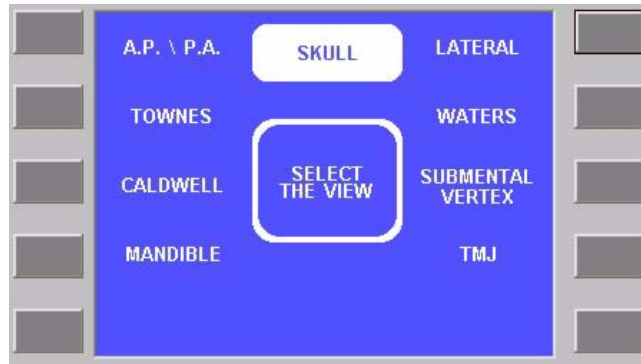

Figure 4-5. APR View Selection Screen
7. In the Service Menu, press the key next to the **APR Edit** field. The APR Edit mode screen appears (see Figure 4-5). The system accommodates up to 10 user-configurable preset region names, as shown in the sample screen below. Each region can have up to 10 selectable views, which appear upon selection of the region. Each view contains pre-programmable technique factors that are configurable according to the facility's particular requirements and/or preferences.
For example, to edit the **SKULL** region (see Figure 4-5), press key adjacent to the **SKULL** field. The APR Region Edit screen appears: